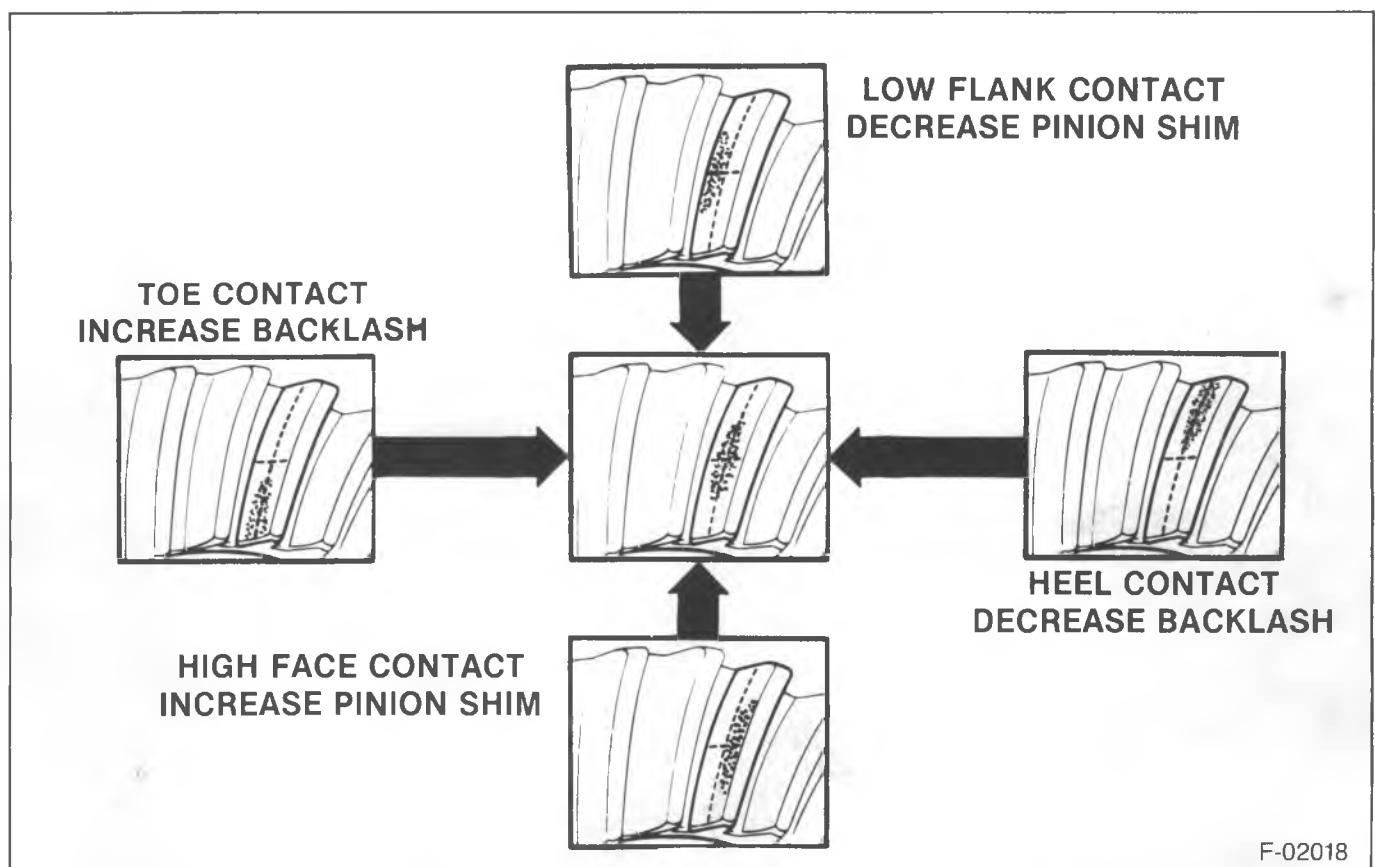

Figure 26—Gear Tooth Pattern
5. Observe the pattern on the ring gear teeth and compare this with figure 26.